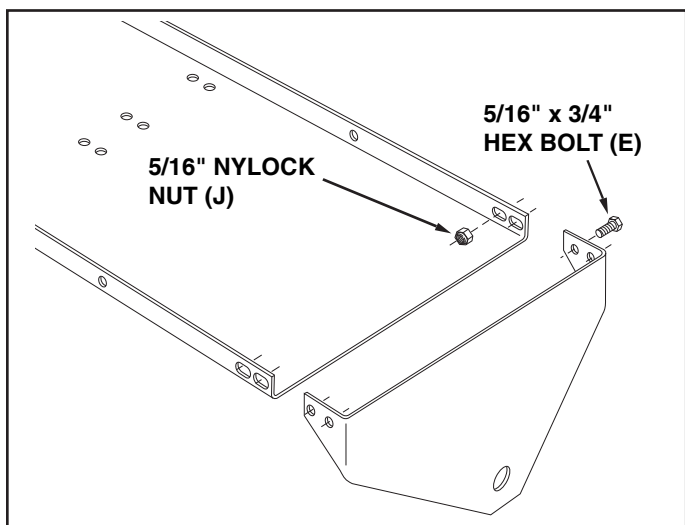

FIGURE 5
6. Assemble the end plates to the ends of the tray using four 5/16" x 3/4" hex bolts (E) and four 5/16" nylock nuts (J) for each end plate. **Do not tighten until final step.** See figure 5.